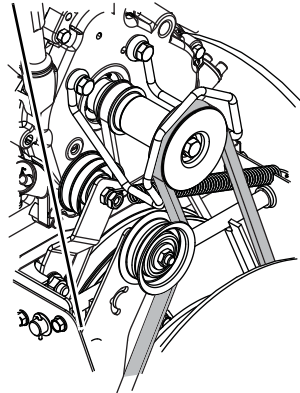

Figure 21
3. With the attachment clutch disengaged, check that the attachment idler arm lightly touches the frame. See Figure 21.